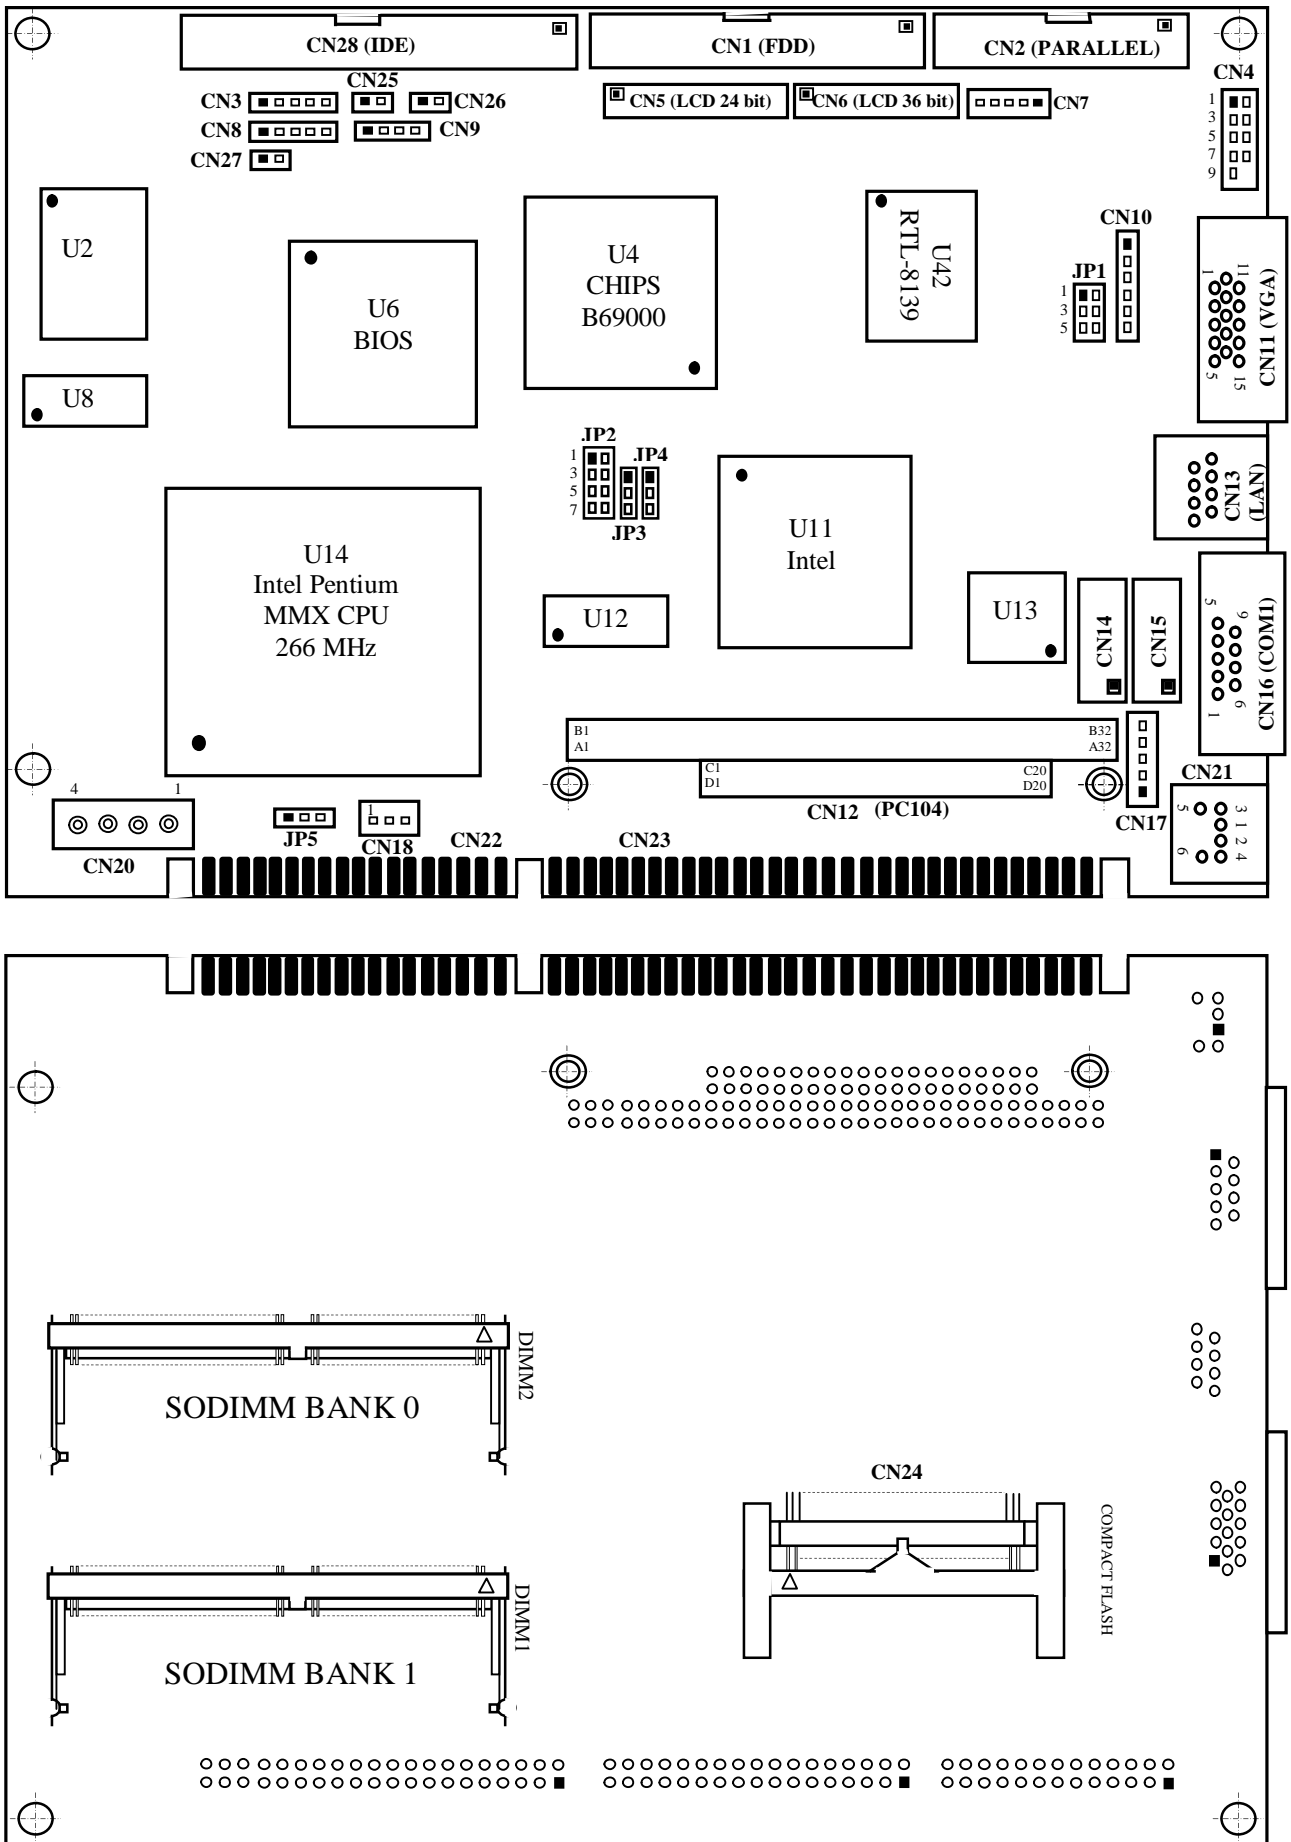

Figure A.1 – Arrangement of Connectors and Jumpers of the PCA-6751 CPU Board
10.1.1.1 The arrangement of connectors, jumpers and electronic components of the **PCA-6751** type **CPU card** NC201-21 is presented in Figure A.1. The marking given on the card is: «**JP**» – a jumper.